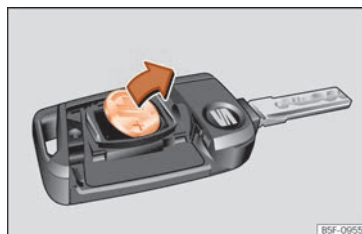

Fig. 85 Vehicle key: removing the battery.
- Extract the battery from the compartment using a suitable thin object »» Fig. 85.
- Place the new battery in the compartment as shown »» Fig. 85, pressing in the opposite direction to that shown by the arrow »» ❷.